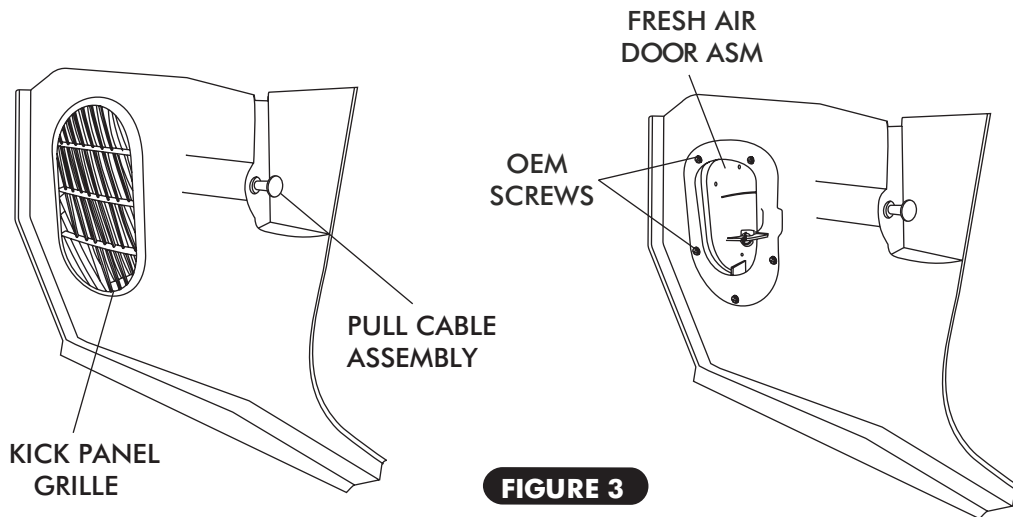

FIGURE 3
- REMOVE KICK PANEL GRILLE (DISCARD). REMOVE KICK PANEL BY REMOVING (5) OEM SCREWS FROM THE FRESH AIR DOOR ASM. DISCONNECT AND DISCARD PULL CABLE ASSEMBLIES FROM THE KICK PANEL. SEE FIGURE 3 BELOW.